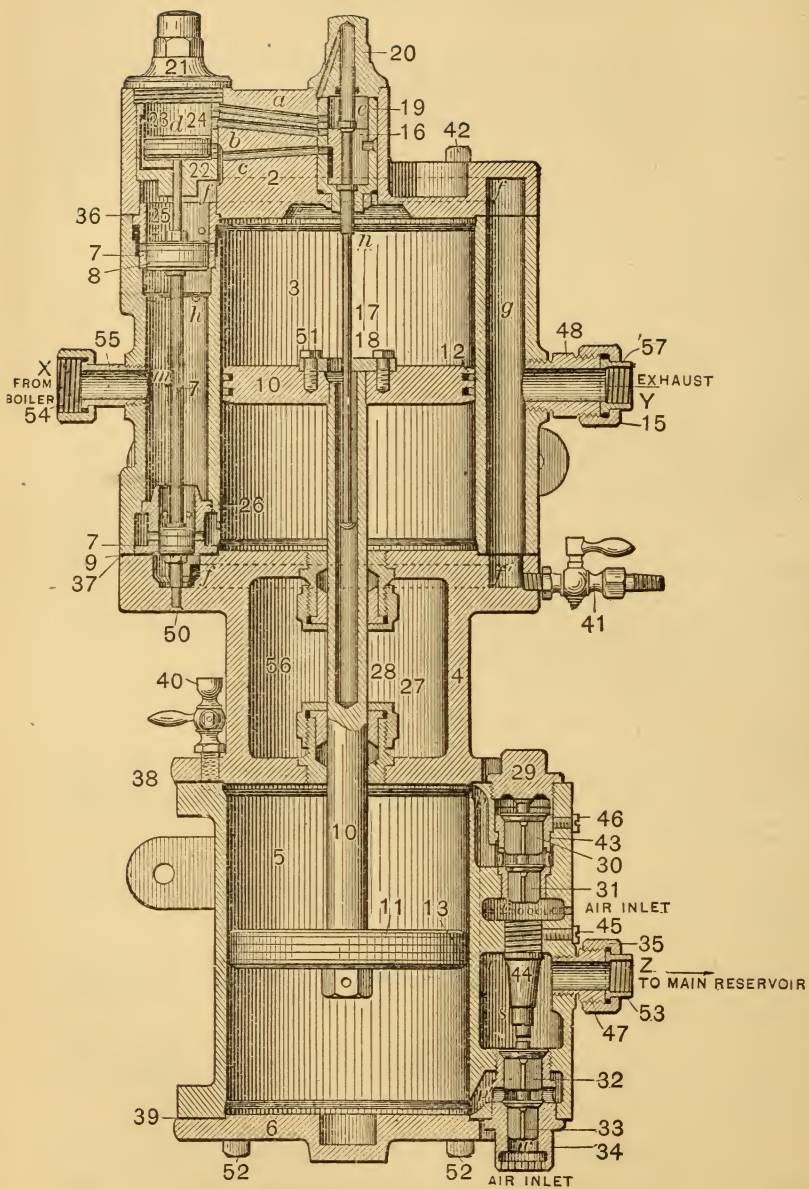

FIG. 38.—8-INCH PUMP.
Piston 23 (Fig. 38), called the reversing piston, is not found in the 9½-inch pump (Plate VII).
Q. As the steam enters the pump at X (Fig. 38), where is it free to pass?
Q. The pistons 7 (Fig. 38) are of unequal size, and the upper piston 7 and piston 23 are the same size. What happens when steam enters chambers m and e with the reversing slide valve in its present position?
A. Steam passes through small ports in bushing 26 (Fig. 38), just above the small piston 7, underneath piston 10, forcing it up. At the same time the top end of the steam cylinder is connected with the atmosphere through the upper ports of bushing 25, the port *f*, as shown by the dotted lines, down through *g* and out at *Y*.
Q. With no pressure acting down on piston 23 (Fig. 38), what happens?
A. Loose packing rings in the main steam piston 10, piston 23, or pistons 7, a bad seat on the reversing slide valve, or the top of stem 17 being a loose fit in the cap nut 20 (Fig. 38).